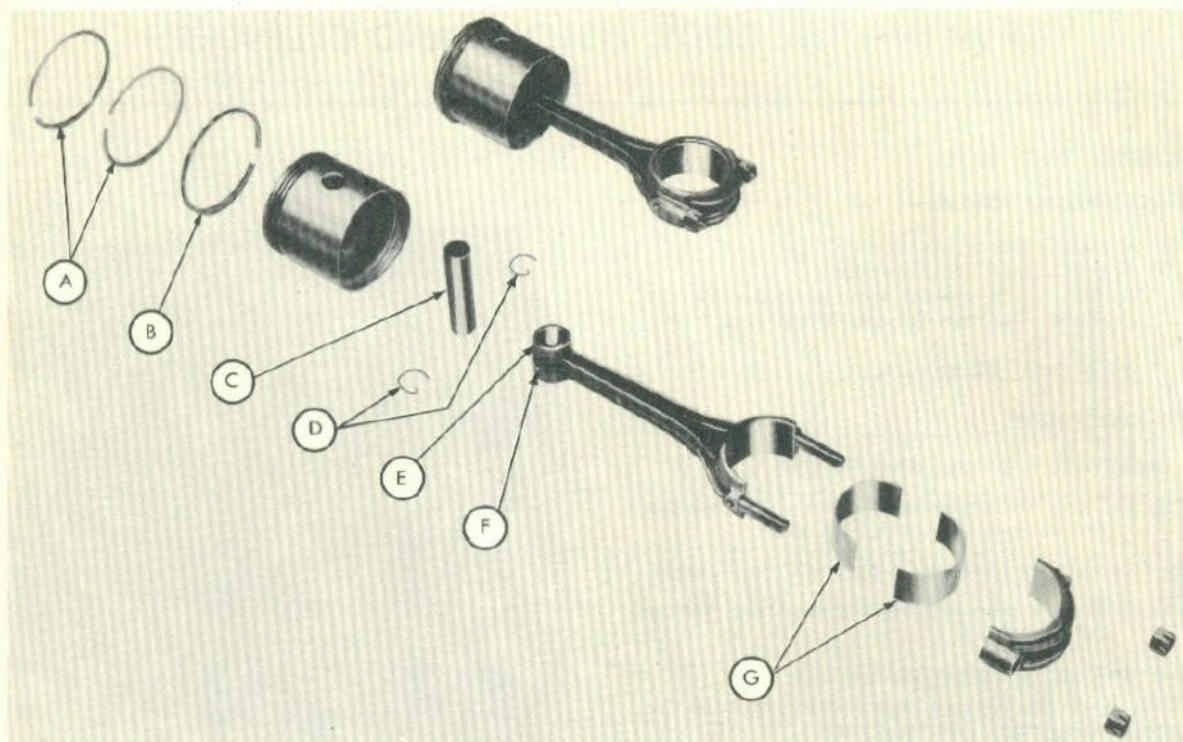

Fig. 3
Step 1—Remove the two compression rings (A-Figure 3) and the oil control ring (B-Figure 3).
Step 1—Remove the two spring lock clips (D-Figure 3) from the sides of piston.
Step 2—Push the piston pin (C-Figure 3) out. Note the position of the rod for correct installation.
Step 3—Remove the piston pin bushing (E-Figure 3).
Step 5—Drill the two oil holes (F-Figure 3) in the bushing after the bushing has been pressed into position.
Step 1—Remove the old inserts (G-Figure 3).